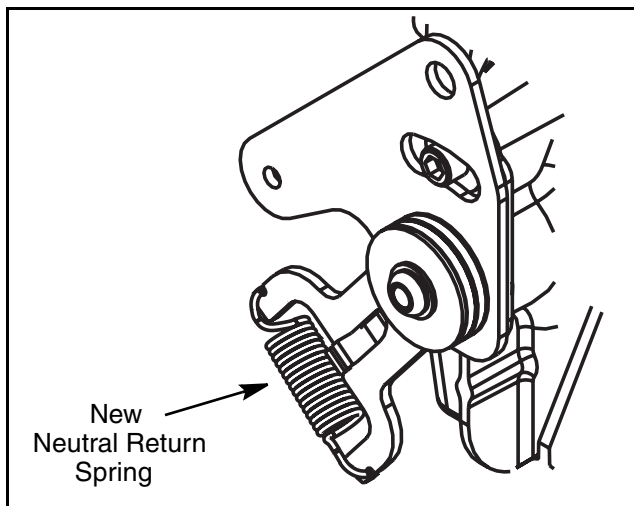

FIGURE 3
5. Install the new Neutral Return Spring, Item 7, onto the two arms as shown in Figure 3.
4. With a suitable set of pliers or spring removal tool, remove and discard the existing spring from the neutral return mechanisms two arms on the remaining (not replaced with this kit) hydrostatic transmission. See Figure 3.